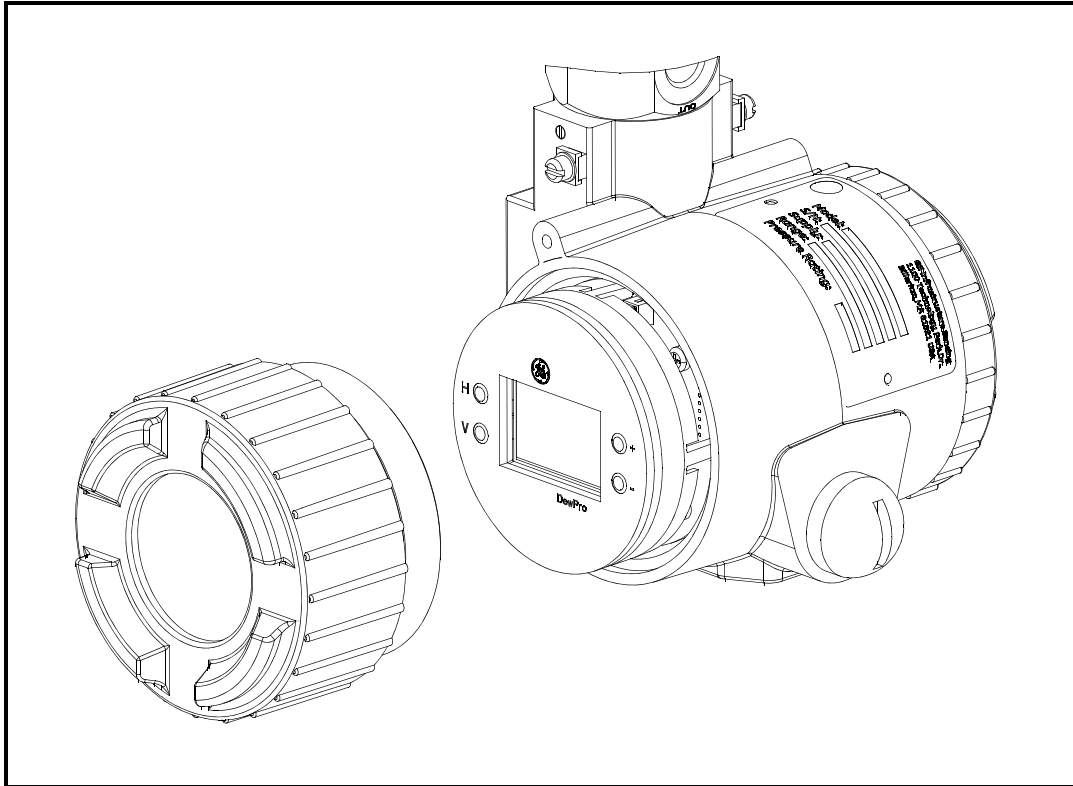

Figure 14: DewPro with Display
1. Unscrew and remove the protective lid from the top of the DewPro (as shown in Figure 14 above), exposing the display module below. The buttons V, H, + and – are now accessible.